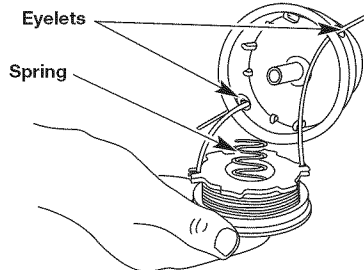

Fig. 21
13. Insert or slide the split ends of the line through or into the eyelets in the outer spool and place inner reel with spring inside the outer spool (Fig. 21). Push the inner reel and outer spool together.
5. Insert or slide the ends of the line through or into the eyelets in the outer spool (Fig. 21).